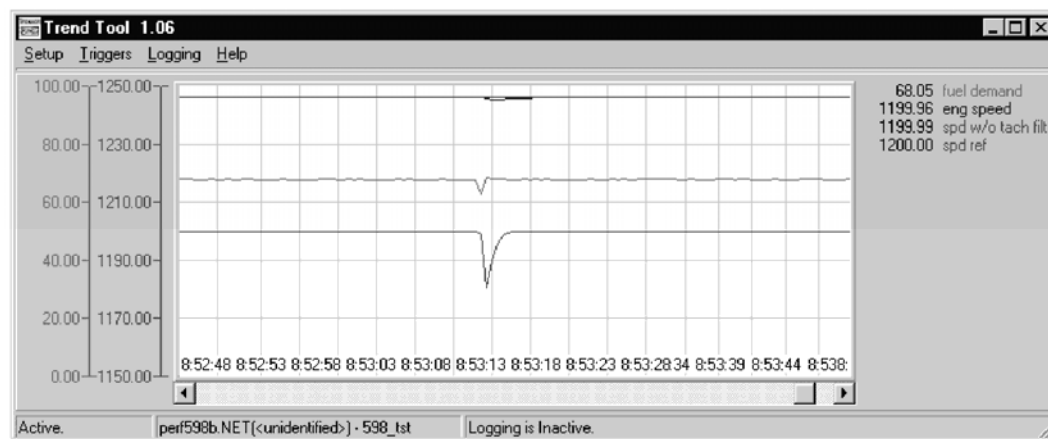

Figure 5-2. Trend Tool Trace Example 2
14. Enter the calculated Reset, Compensation, and Gain setting into the control. Save these settings in the control. The assumption is these settings will produce good performance as shown in Figure 5-2. If this is not the case, recheck all readings and calculations or repeat this entire procedure.
15. Bump the actuator (you can use a larger bump this time) to test control response. Figure 5-2 shows the expected response.